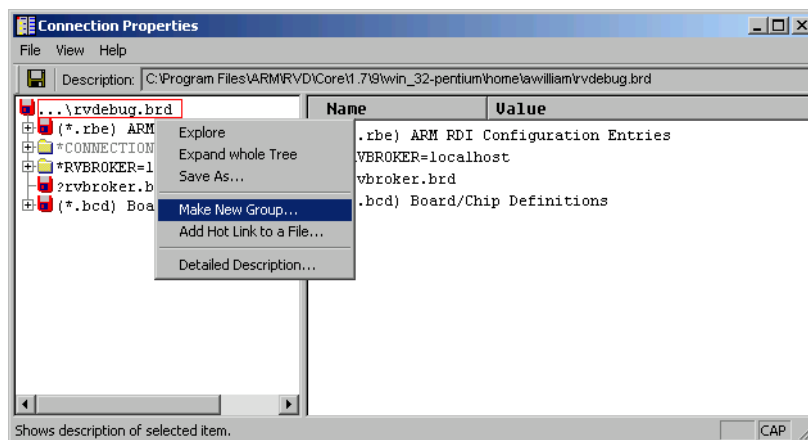

Figure B-5 Making a new group
3. Select **Make New Group** from the context menu, as shown in Figure B-5.